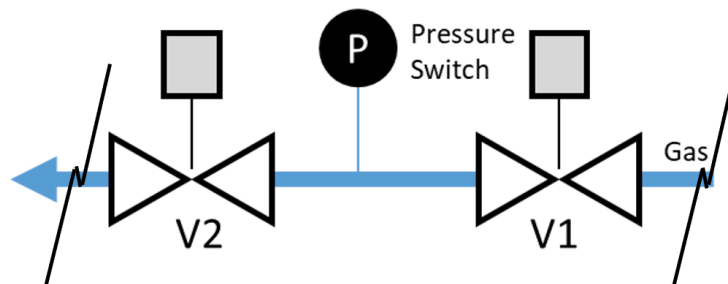

Figure 3: VPS-1 Gas Train
**VPS-1:** VPS-1, depicted in Figure 3, uses a flame safeguard control for leak detection. The flame safeguard controls the two valves separately. During the standby period, the downstream valve, V2, opens, pushing any gas between the two valves downstream, then proceeds to close. The control then monitors a pressure switch between the two gas valves to determine if valve V1 is leaking. If V1 leaks, the pressure between V1 and V2 will rise. If the flame safeguard control recognizes this condition, it indicates a fault and prohibits the boiler from starting.